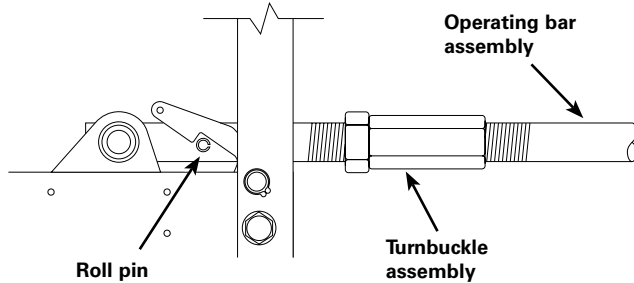

Figure 10. Turnbuckle assembly
4. Loosen operating bar turnbuckle assembly, inside interrupter housing, see Figure 10.